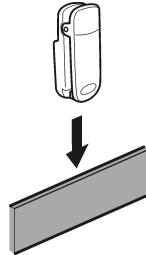

Figure 2
- Clip the Quick-Draw Belt Clip onto your belt (Figure 2).